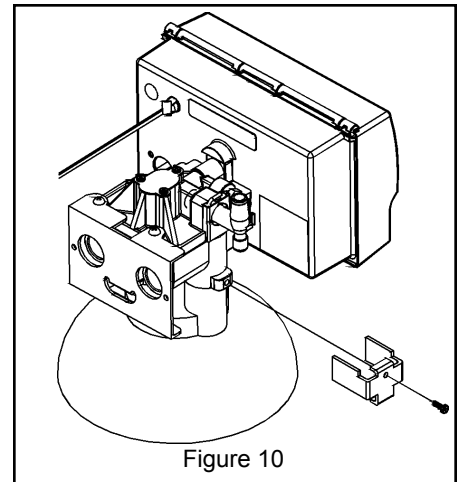

Figure 10
See figure 10 for a visual on mounting the control valve to the tank.
3. Remove the two u-clamps and screws from the parts pack. Install the clamps on both sides of the control as indicated in Figure 10 and secure them with the screws.